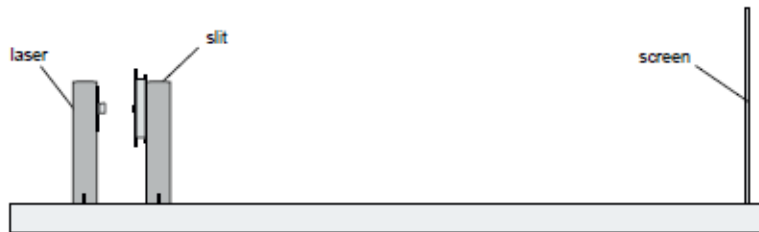

Figure 2.3: Optics Bench Setup
- ① Set up the laser at one end of the optics bench and place the Multiple Slit Disk in its holder about 3 cm in front of the laser. See Figure 2.3.